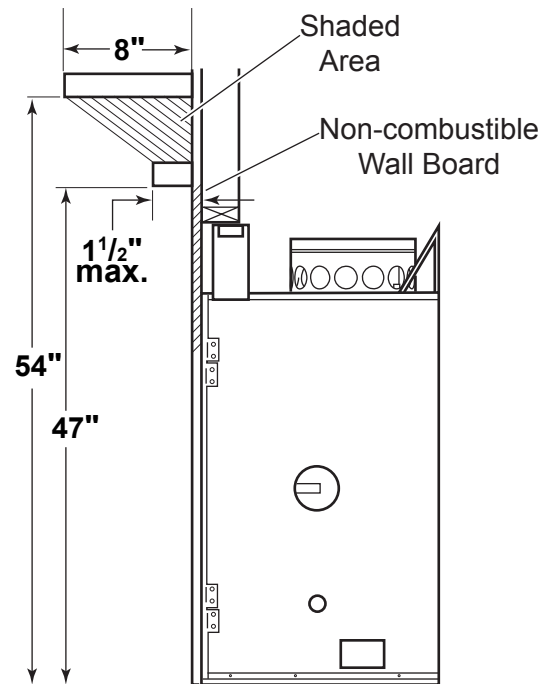

Figure 39 - Placement of Combustible Mantel and Trim without Hood
2. Combustible mantel and/or trim may be installed within shaded area in *Figure 39*. Use only non-combustible materials below top of spacers and behind front face.